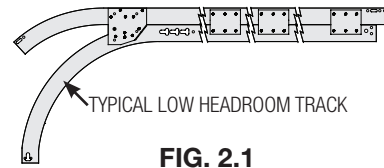

FIG. 2.1
**NOTE:** If you have a low headroom track system (FIG. 2.1), proceed to Step 3.